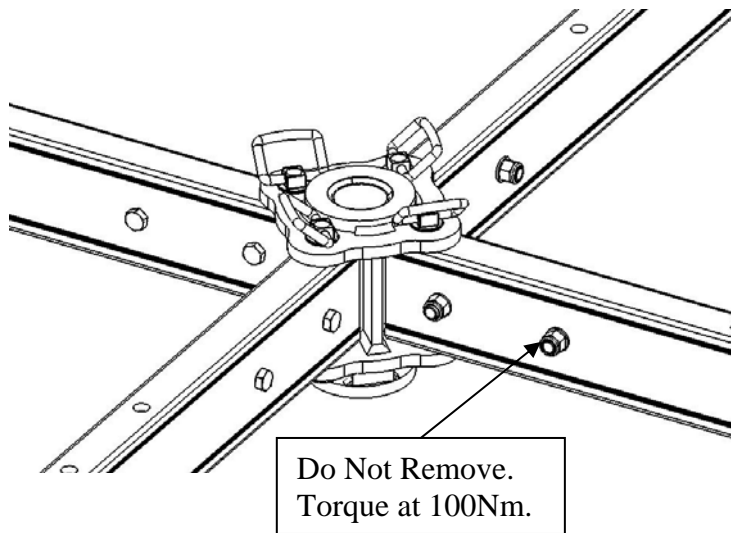

Figure 13 HUB + LEG ASSEMBLY
1. Insert each leg assembly into the socket hub with levelling foot to the ground (see Figs. 13 & 14) and retain with 4-off tow pins. Secure tow pins with lynch pins.